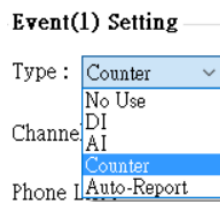
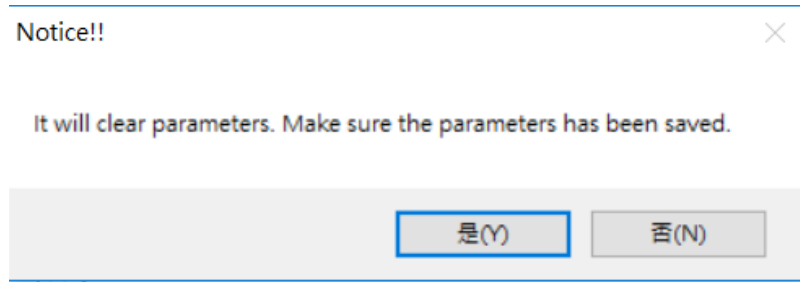

Figure 5.10.22
Figure 5.10.23
E. Select “Counter” in Type as shown in Figure 5.10.22. After selecting, it will pop up the attention window and select “Yes” as shown in Figure 5.10.23